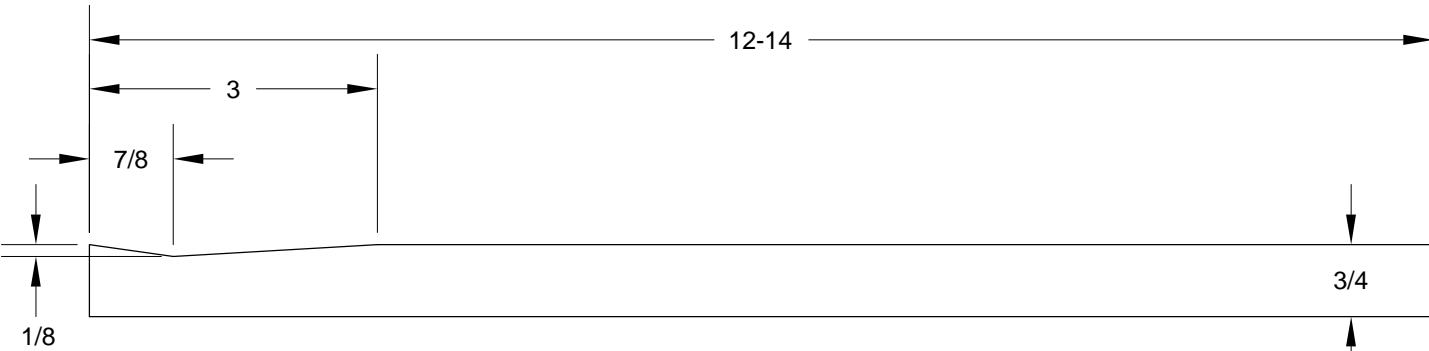
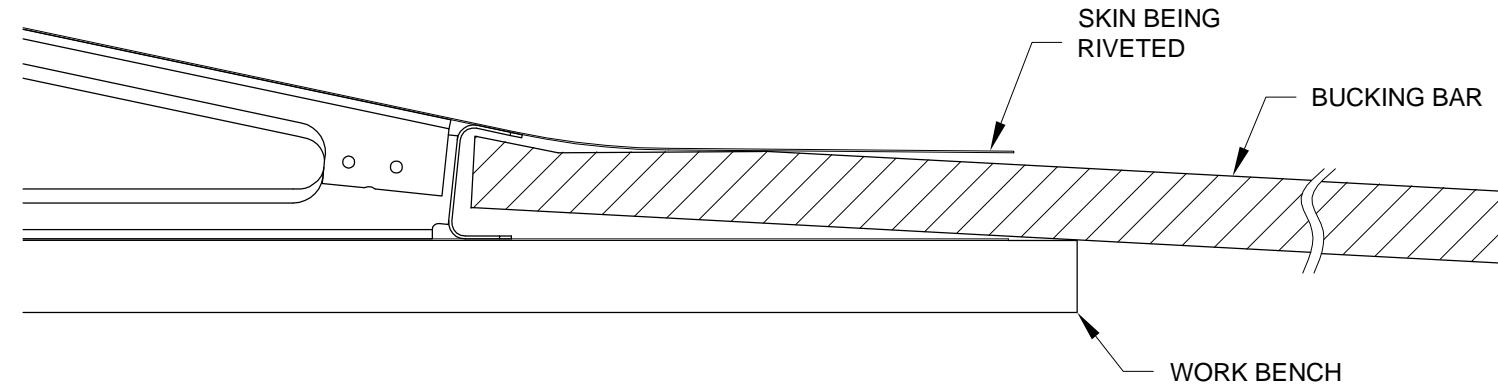

FIGURE 2: BUCKING BAR DIMENSIONS
FIGURE 3: RIVETING THE REAR SPARS TO THE SKINS
Step 3: Make the bucking bar shown in Figure 2. It should be at least one inch wide.
Step 5: Rivet the second flange of the E-1007 Rear Spar to the E-1001B Bottom Skin of the left elevator. (Rivet the skin of the left elevator first to give you some practice before riveting the more visible top skin on the right elevator.) Position the elevator on the work bench, as shown in Figure 3, with the edge of the work bench extending slightly beyond the elevator trailing edge. Insert the bucking bar made in Step 3 between the skins, and, with the bar resting on the edge of the work bench, rivet the spar to the skin using the rivets called out on Page 9-20, Figure 2.